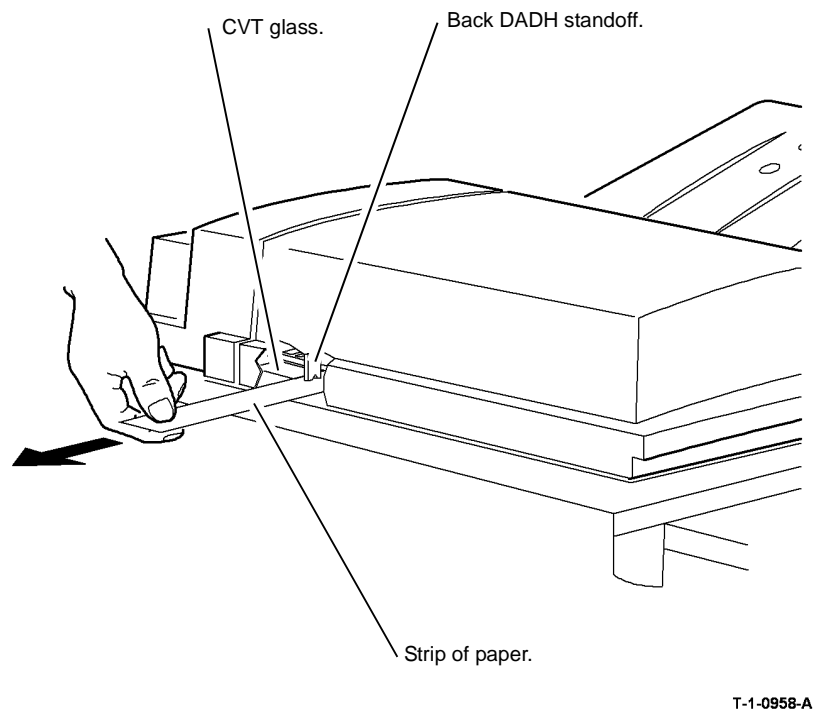

Figure 2 Clearance check
1. Check the height of the DADH. The two standoffs touch the CVT glass when the DADH is closed, Figure 1. Check that the DADH is parallel to the scanner module. Perform the steps that follow. Refer to Figure 2: